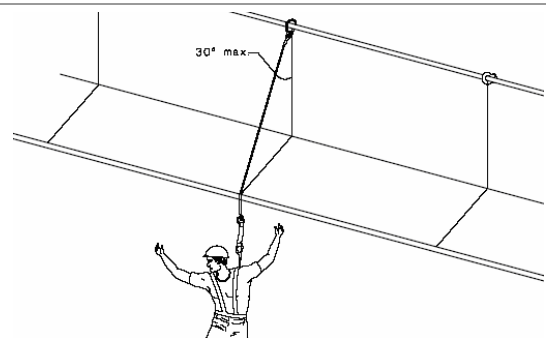

Figure 8 Angular limit on direction of line loading
- The line is to be rigged so that it is at least 1.5m above the working platform but preferably above the head height of the people attached to it, and located laterally so that, in the event of a fall, the fall-arrest force cannot act on the cable at an angle greater than 30° to the vertical, measured at right angles to the line as shown in Figure 8.